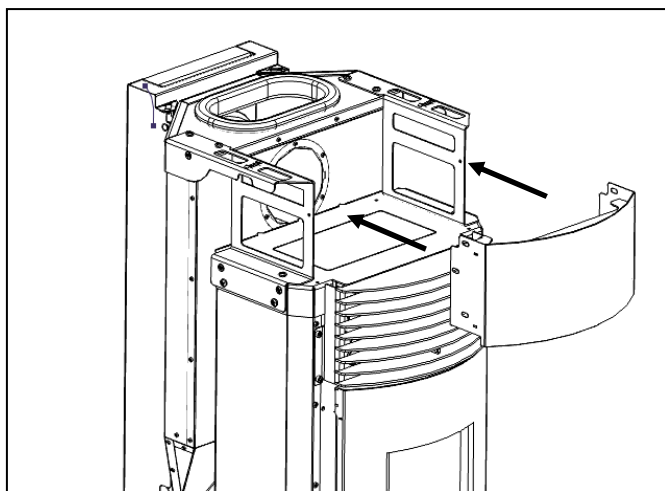

Figure 43 – Fitting the front of the equipment
b) Place the upper front as shown in Figure 43, positioning the flaps of the front part on the inner face of the structure.